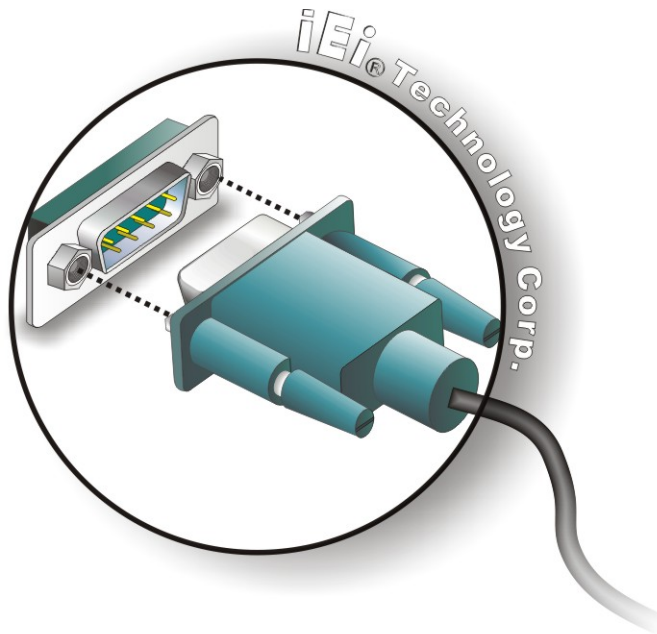

Figure 4-11: Serial Device Connector
Step 2: **Insert the serial connector.** Insert the DB-9 connector of a serial device into the DB-9 connector on the external peripheral interface. See Figure 4-11.